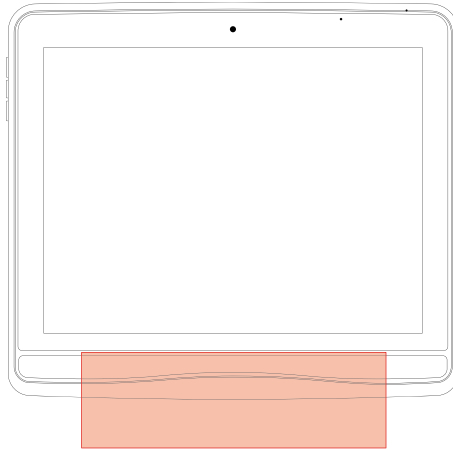

Figure 5.7 Wake-on-Gaze® Area
2. Look at the area in between the two illuminators of the Eye Tracker at the bottom of the I-Series, see Figure 5.7 *Wake-on-Gaze® Area, page 29*.